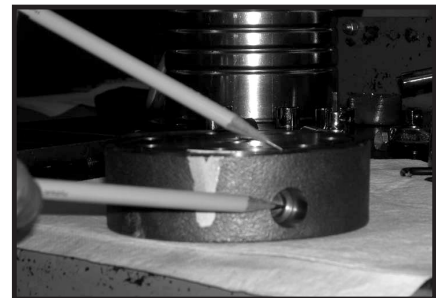

Figure 8
6. Thoroughly wash end cover (2) in proper solvent and blow dry. Be sure the end cover valve apertures, including the internal orifice plug, are free of contamination. Inspect end cover for cracks and the bolt head recesses for good bolt head sealing surfaces. Replace end cover as necessary. SEE FIGURE 8.